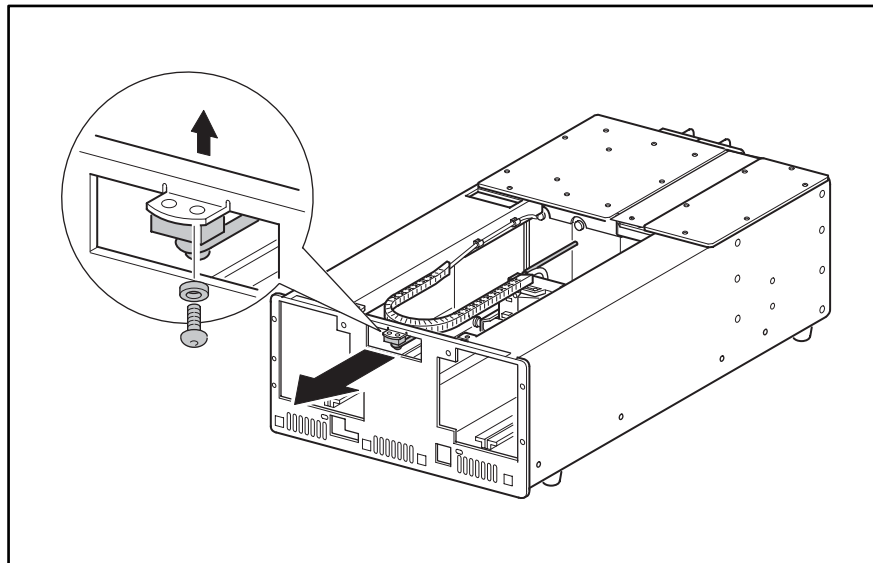

Figure 2-41: Removing the cable support rod
4. Remove the screw and spacer that secures the cable support rod pivot block to the library chassis (see Figure 2-41).
2. Position the cable support rod pivot block at the library chassis mounting tab so that the mounting hole is to the left of the cable support rod (see Figure 2-41).
3. Replace the spacer and the screw that secures the cable support rod to the library chassis (see Figure 2-41).